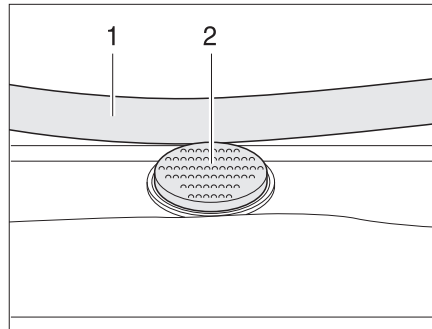

Fig. 43 Safety knob on the Heki skylight
- Press the safety knob (Fig. 43,2) and pull the bar (Fig. 43,1) down with both hands.
- Push the bar upwards with both hands until it is above the safety knob (Fig. 43,2).